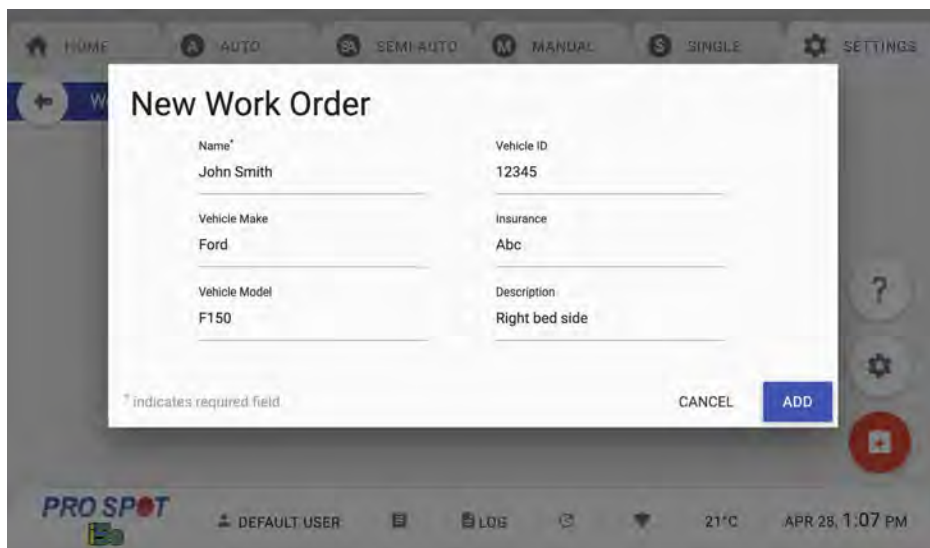

Figure 4.25
2. On the top right-hand side of the work order you will see four options - Remove, Log, Export and Assign (Figure 4.25).